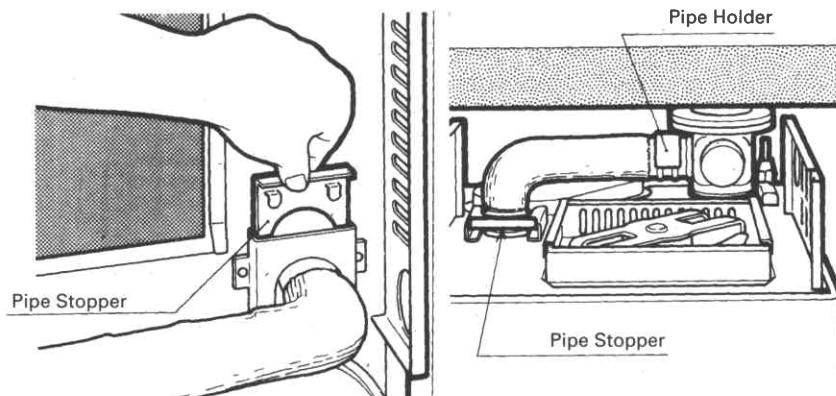

Fig. 12
8. Secure the L-shaped hose to the intake inlet opening with the hose band. Secure the bent joint to the standard flue pipe with the pipe holder (If the extension pipe is used, also attach the pipe holder to the connection of the bent joint and the extension pipe). Secure the bent joint (or the extension pipe) to the exhaust outlet opening by sliding the pipe stopper into the exhaust opening bracket (See Fig. 12).